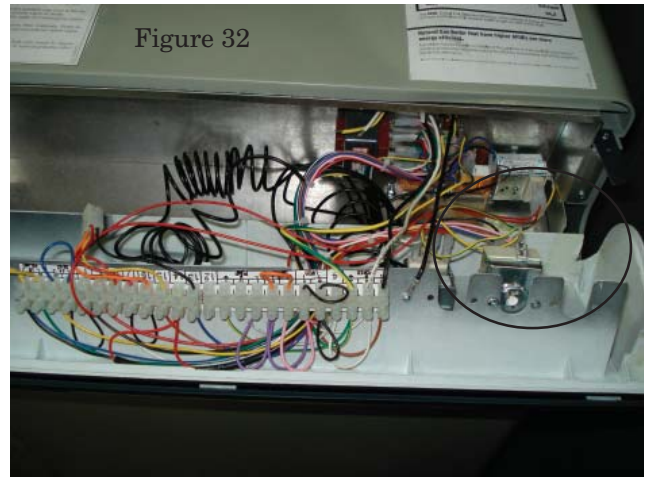

Figure 32
1. Open the control panel and locate the existing auto-reset water temperature limit. See Figures 32 and 33.